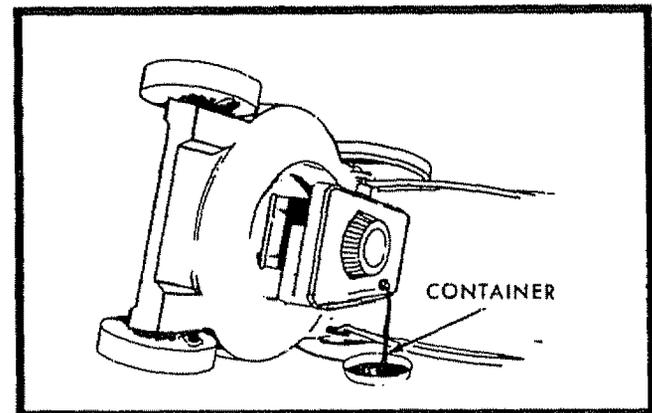

FIG. 16
- Tip lawn mower on its side as shown in Fig. 16 and drain oil into suitable container. Rock lawn mower back and forth to remove any oil trapped inside of engine.